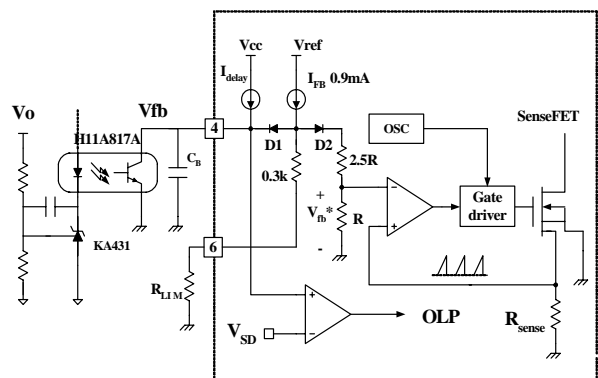

Figure 18. Pulse Width Modulation (PWM) Circuit
2. Feedback Control: The FSCM0565R employs current mode control, as shown in Figure 18. An opto-coupler (such as the H11A817A) and a shunt regulator (such as the KA431) are typically used to implement the feedback network. Comparing the feedback voltage with the voltage across the R_{sense} resistor makes it possible to control the switching duty cycle. When the reference pin voltage of the KA431 exceeds the internal reference voltage of 2.5V, the H11A817A LED current increases, thus pulling down the feedback voltage and reducing the duty cycle. This event typically happens when the input voltage is increased or the output load is decreased.
2.1 Pulse-by-pulse Current Limit: Because current mode control is employed, the peak current through the SenseFET is determined by the inverting input of the PWM comparator (V_{fb}^*) as shown in Figure 18. When the current through the opto transistor is zero and the current limit pin (#5) is left floating, the feedback current source (I_{FB}) of 0.9mA flows only through the internal resistor ($R+2.5R=2.8k$). In this case, the cathode voltage of diode D2 and the peak drain current have maximum values of 2.5V and 2.5A, respectively. The pulse-by-pulse current limit can be adjusted using a resistor to GND on the current limit pin (#5). The current limit level using an external resistor (R_{LIM}) is given by